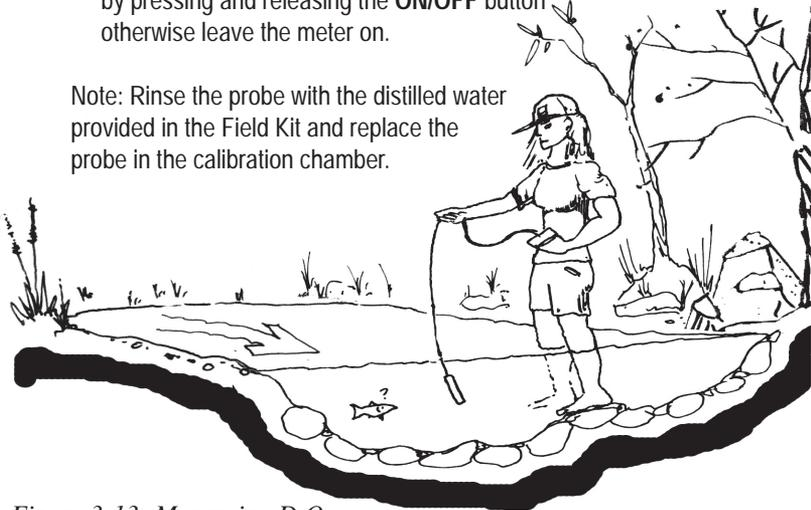

Figure 3-13: Measuring D.O.
3. Lower the probe in the water halfway between the surface and the bottom of the water you are sampling (at least 3.5 inches below the surface water). **Do not to let the probe hit the bottom** (Figure 3-13).